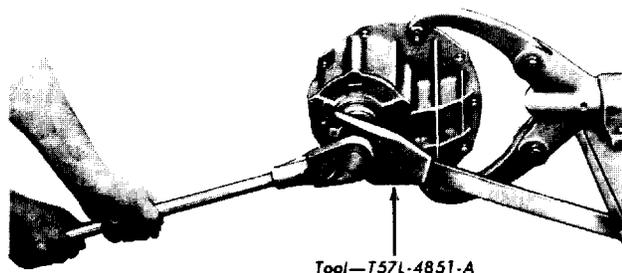
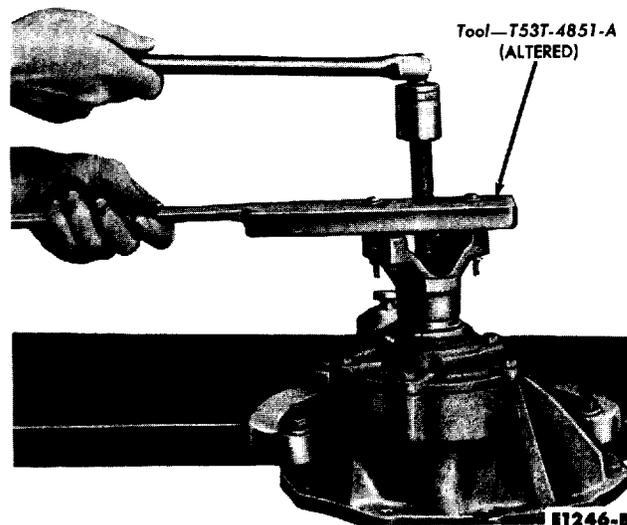

FIG. 9—Pinion Shaft Nut Removal
FIG. 10—U-Joint Flange Removal
3. Hold the flange with the tool shown in Fig. 9, Part 6-2. Remove
5. **Remove the U-joint flange carefully (Fig. 10, Part 6-2) to avoid later misalignment of the drive shaft.**
7. Turn the carrier case upright, and remove the pinion shaft nut (Fig. 9). Then remove the U-joint flange (Fig. 10).